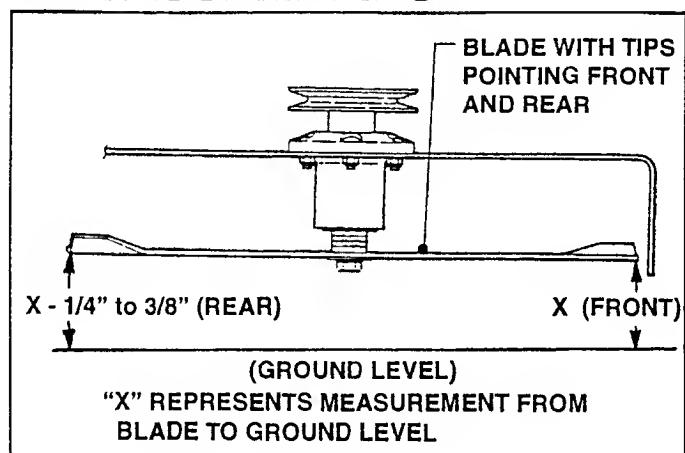

FIGURE 8.9
- Check Blade Tips by rotating outside blades until tips are pointing to front and rear of deck. Check measurement of Blade Tips to ground on both Blades. Front to rear measurement should be 1/4" to 3/8" higher in the rear. See Figure 8.9.